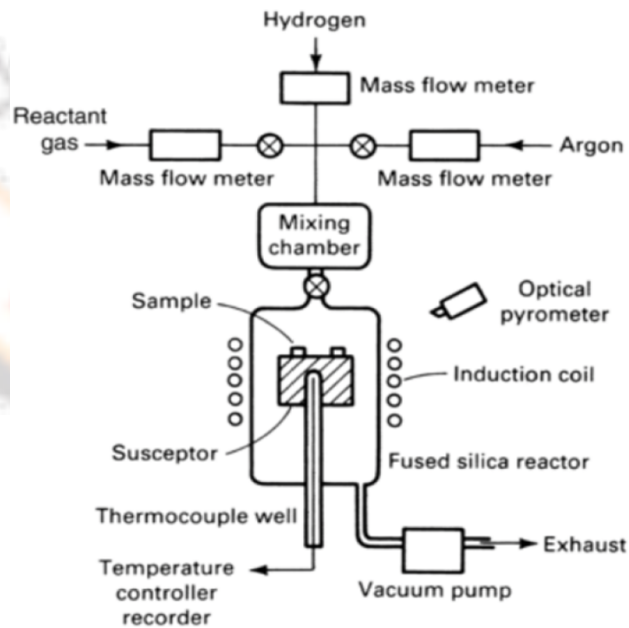

Fig. 5.17: Thermal CVD reactor
- **(Fig. 5.17):** Schematic of a thermal CVD reactor.